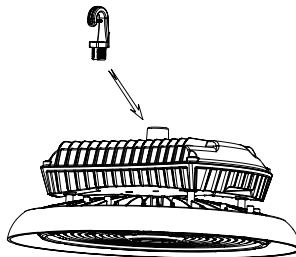

FIG.1
- 1 Attach the hook to the fixture, ensuring it's securely tightened and fixed in place, as shown in (Figure 1).